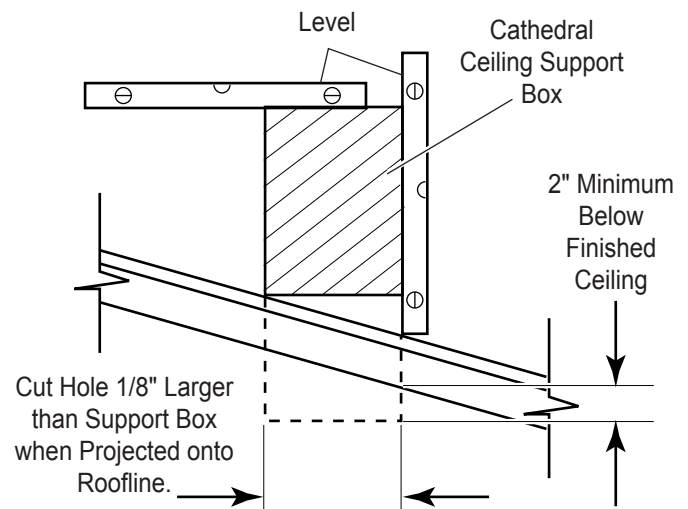

Figure 28c - Cathedral Ceiling Support Box Installation
2. Cut the hole 1/8" larger than the support box outline. See Figure 28c.
3. Lower the support box through the hole in the roof until the bottom of the box extends at least 2" (51 mm) below the ceiling. See Figure 28c. Align the support box vertically and horizontally using a level. Temporarily tack the support box in place through the inside walls and into the roof sheathing.